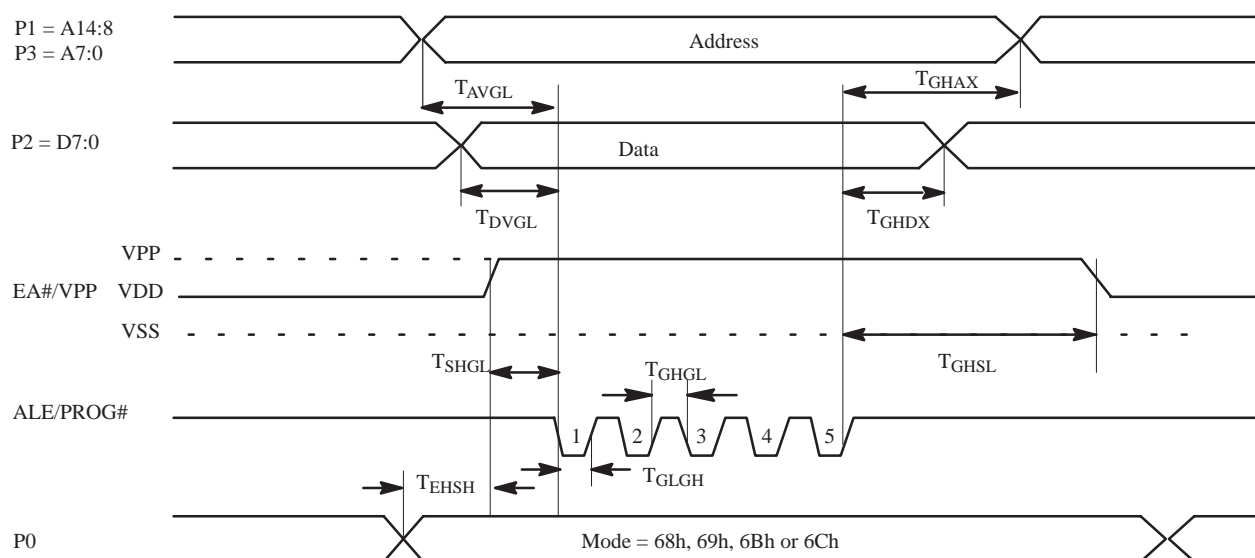

Figure 3 Timings for EPROM Programming
1. The ALE/PROG# pulse waveform is shown in Figure 3.